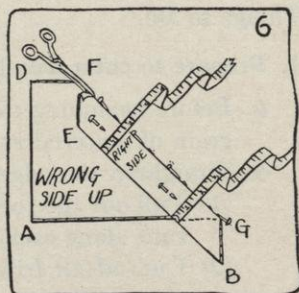

FIG. 6.
- c. Fold down the bias edge exactly on the line of pins, and pin it, as shown in Figure 6.
- d. Cut very carefully on the folded edge (see Figure 6).
- (1) Read and follow Section 3 *a* through *d* above so that you cut the second strip exactly like the first.